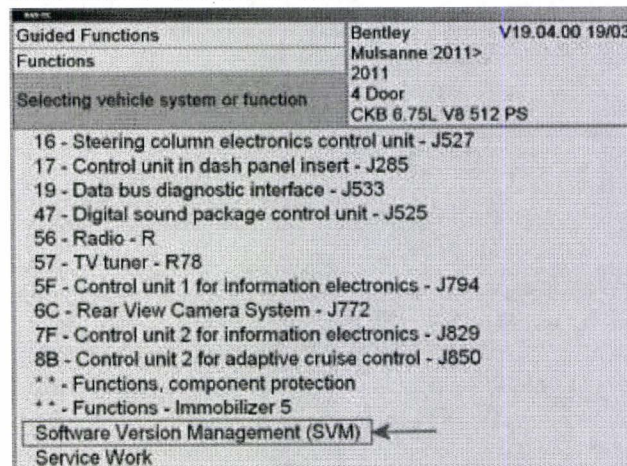

Figure 3
7. In *Selecting vehicle system or function select – Software Version Management (SVM)* (see Figure 3)